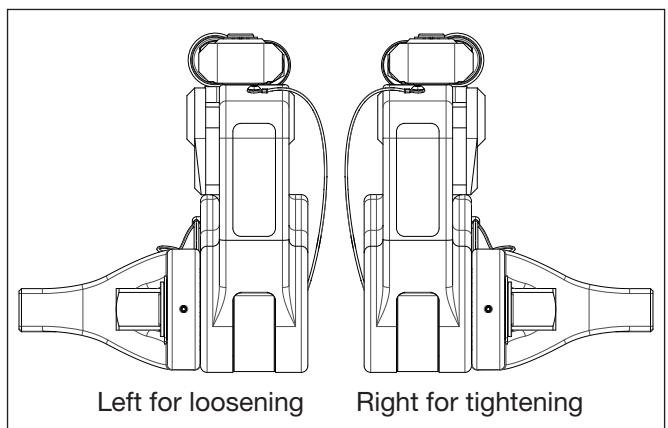

Figure 9: Drive Directions for Loosening/ Tightening
- For tightening bolts, install the square drive in the location shown in Figure 9.